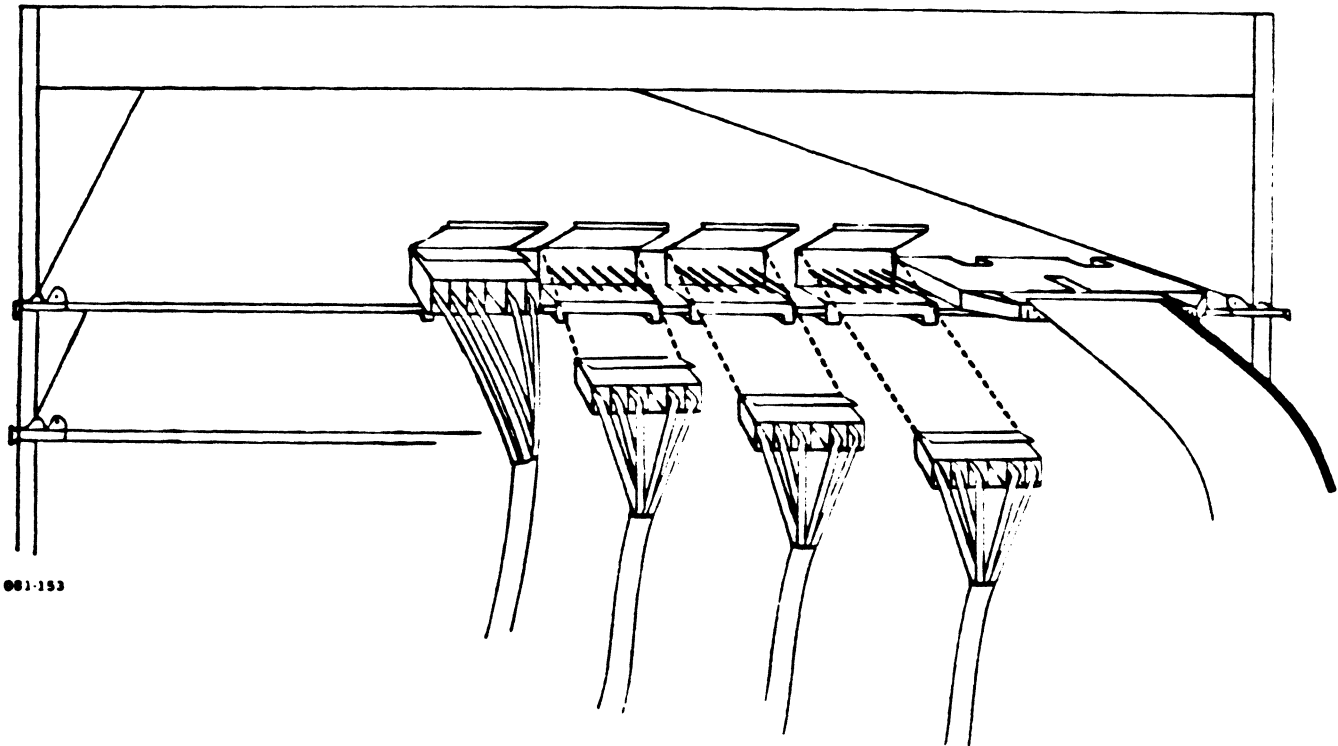

Figure 2-7. Plugging the Remaining Terminal Cables Into the Computer
1. Plug the remaining terminal cables into the port connectors from left to right, as shown in Figure 2-7. Remember to face the ridge side of each plug upward. The remaining ports are numbered one, two and three.